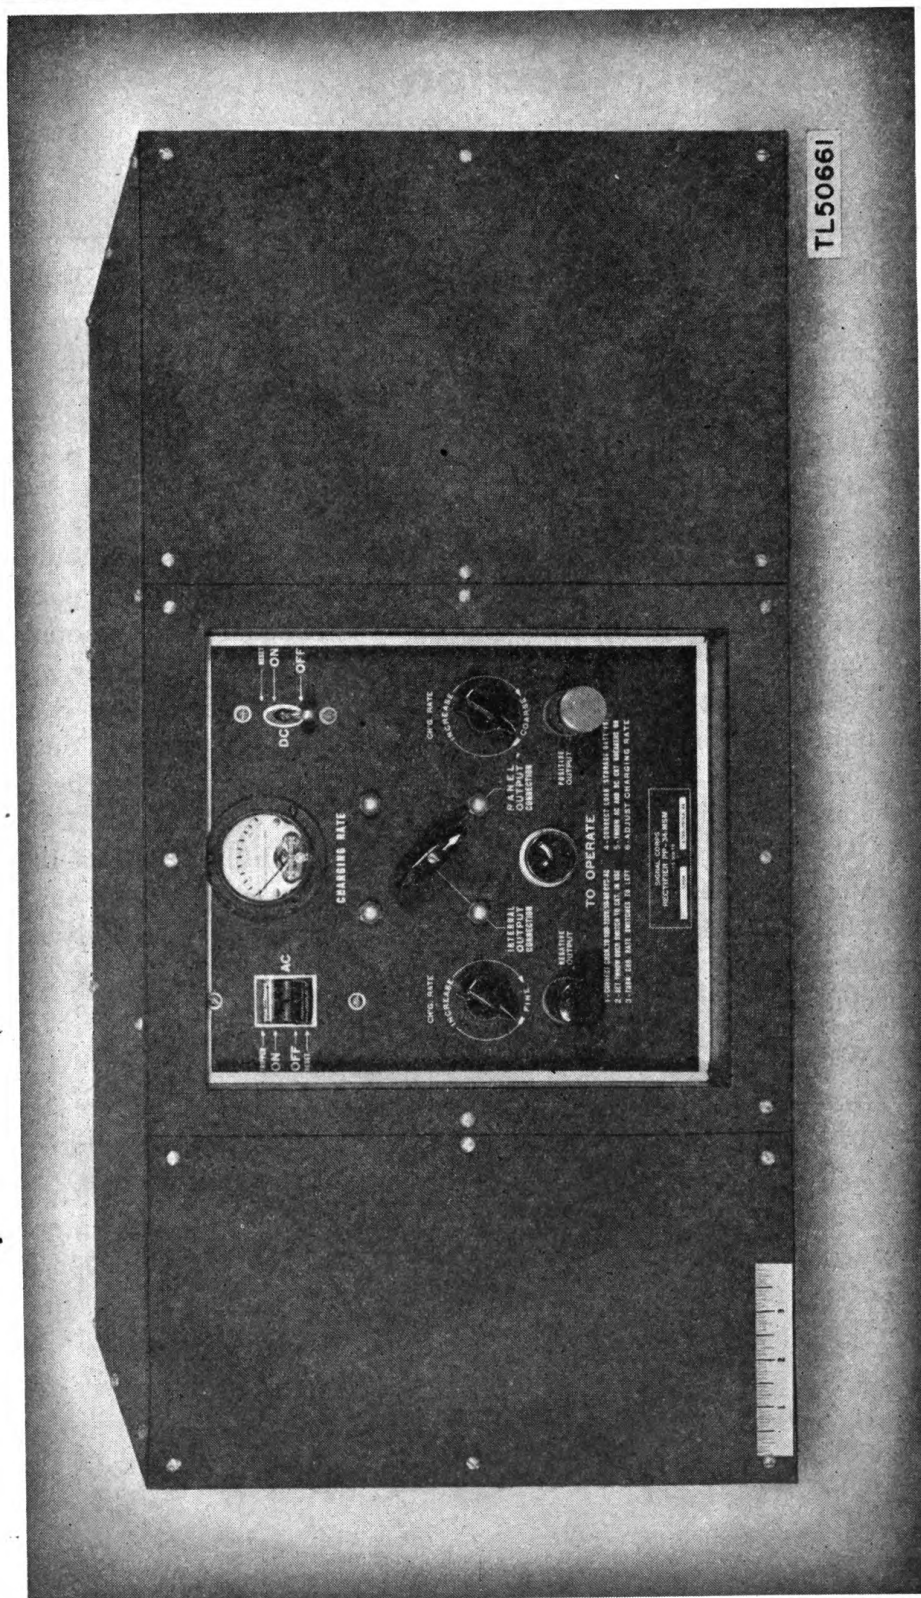
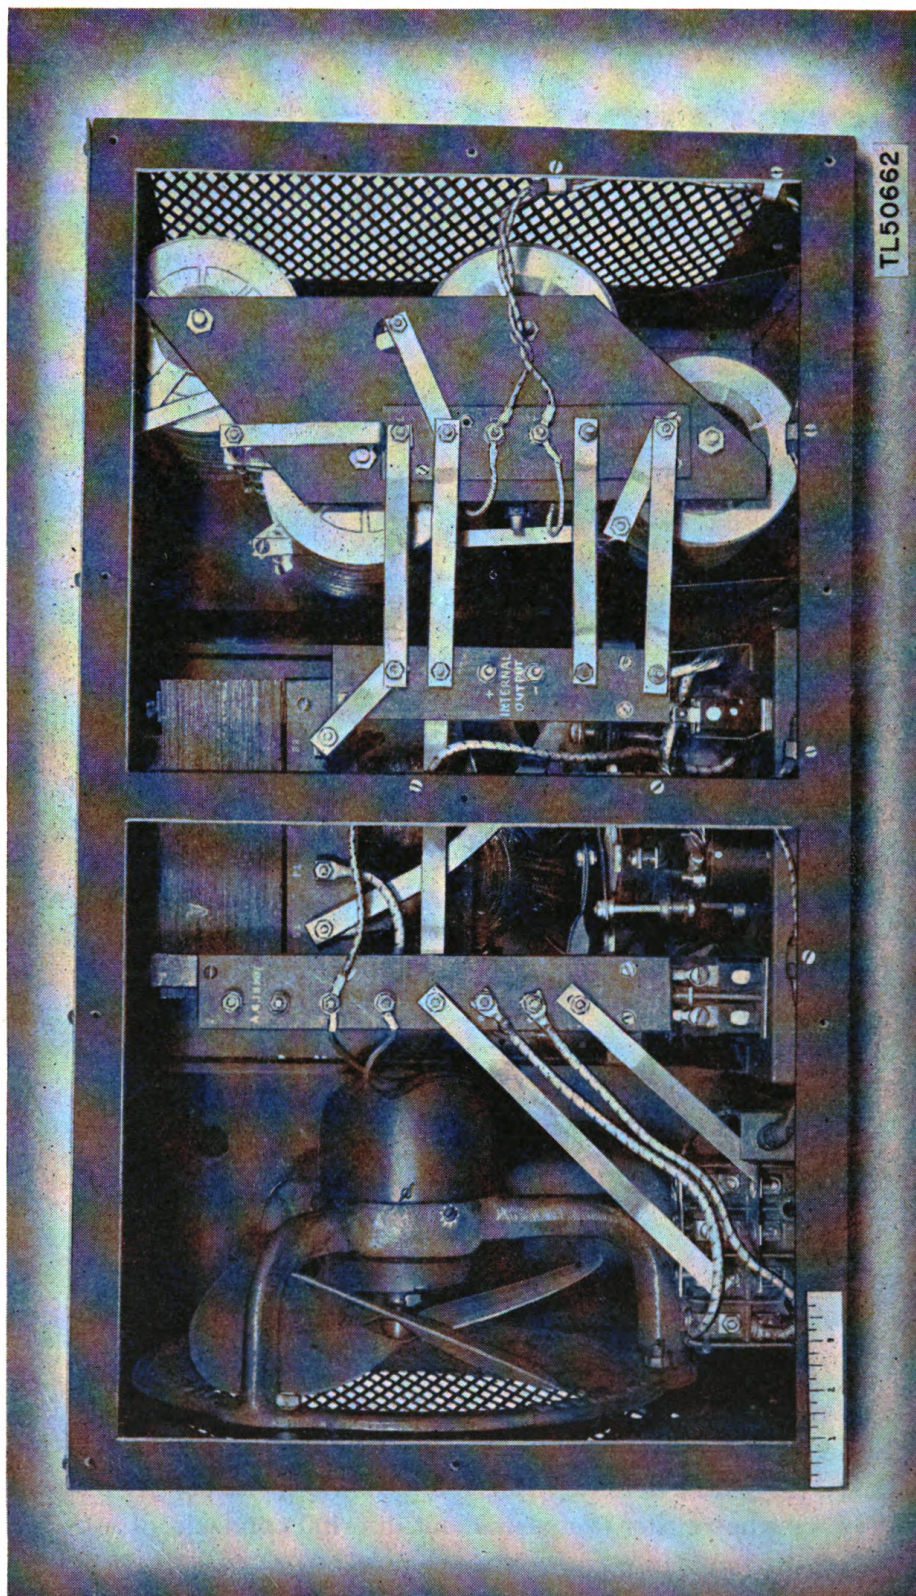

Figure 1. Rectifier Power Unit PP-34/MSM, front view.
Figure 2. Rectifier Power Unit PP-34/MSM, top view, cover removed.
**3. DESCRIPTION.** The rectifier consists of three sections mounted in an angle-iron frame and covered with 16-gauge sheet-steel panels. A front view of the rectifier is shown in figure 1. All controls are mounted on the center panel. The controls consist of an a-c circuit-breaker, a d-c circuit-breaker, and a current throwover switch located in the center of the panel. The switch transfers the load from the internal output connections to the panel output connections located below the tap switches and identified as **NEGATIVE OUTPUT** (black) and **POSITIVE OUTPUT** (red) (fig. 1). On the control panel are a pilot light, which indicates when the equipment is in operation, and two tap-changing switches, **FINE** and **COARSE** (fig. 1). The rectifier is entirely self-contained and need only be connected to the a-c source by the cord and plug provided.
*b.* When the rectifier is to be permanently connected to a storage-battery load, it is necessary to bring the d-c cables through the knockout provided in the bottom of the rectifier to the + and — **INTERNAL OUTPUT** terminals (fig. 2), located on the panel strip on the right-hand side of the transformer section. The current throwover switch, located at the center of the control panel, should be set at **INTERNAL OUTPUT CONNECTION** (fig. 1).
*c.* When the rectifier is used as a temporary charging installation, connect the d-c cables to the **NEGATIVE OUTPUT** binding post (black), and the **POSITIVE OUTPUT** binding post (red). Be sure the cable with the red insulated clip is connected to the positive binding post, and the cable with the black insulated clip is connected to the negative binding post on the panel of the rectifier. Turn the current throwover switch to **PANEL OUTPUT CONNECTION** (fig. 1).
b. Connect the battery, or batteries, to the d-c cables. Observe the correct polarity. The a-c circuit-breaker should be turned to ON. Then turn the d-c circuit-breaker to ON. The charging rate can then be adjusted by turning the CH'G. RATE COARSE tap switch (fig. 1) to the right. This will give the coarse adjustment of the charging rate, which should be a few amperes lower than the final rate desired. The fine adjustment can then be made by the CH'G. RATE FINE tap switch (fig. 1). The charging rate ammeter (fig. 1) indicates the amount of direct current supplied to the storage battery load by the rectifier.
**12. REMOVAL OF PARTS.** In case of failure of any of the parts, throw the a-c switch and the d-c switch to OFF. Disconnect the rectifier from the power source and the battery or batteries being charged; then remove the top cover. Disconnect the bus-bar connecting the three sections of the rectifier from the terminal strips (fig. 2). The fasteners holding the center panel may then be removed and the entire transformer and control assembly removed from the rectifier frame as a drawer. The entire unit can be replaced from the spare parts group, or any component part which has failed can be replaced by itself. The rectifier, or right-hand section, can also be removed as a drawer, by removing the front panel fasteners. The magnetic contactor is mounted on the left-hand panel, which may be removed in case it is necessary. Fuses are not used in the Rectifier Power Unit PP-34/MSM, since the a-c and d-c circuit-breakers furnish the necessary protection against overloads.